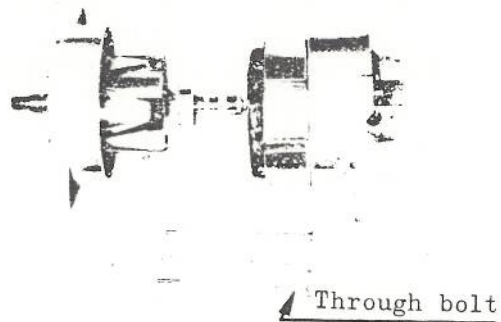

Fig. 10-123
- 2) Remove the through bolt and then, remove the front cover. (Fig. 10-123)